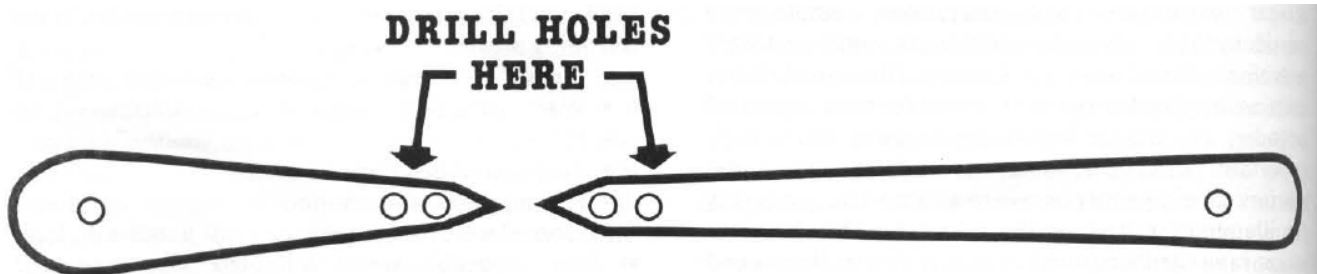
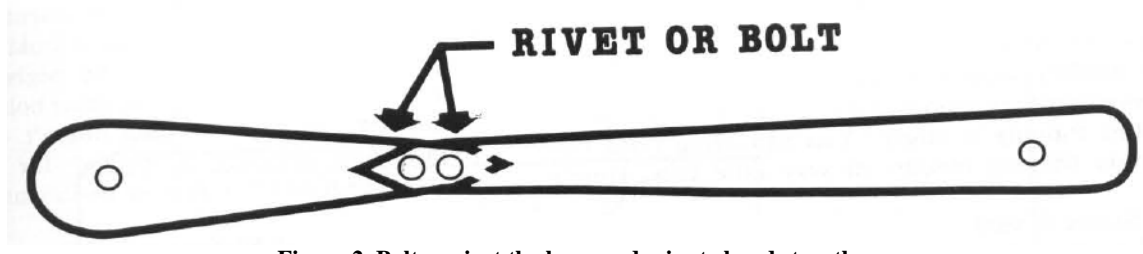
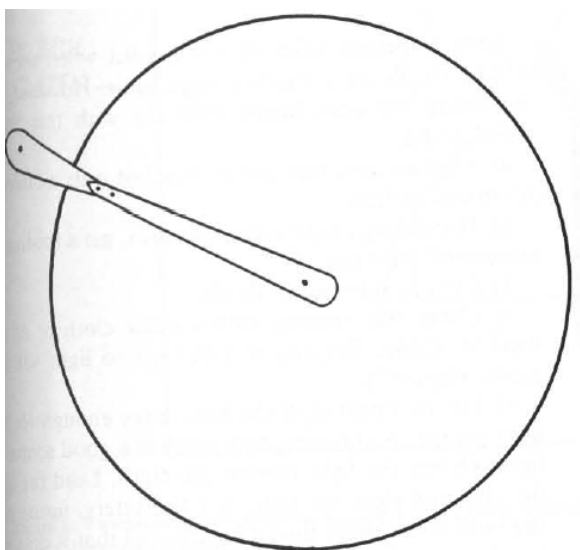

Figure 1. Punch two small holes in the hour and minute hands.
Figure 2. Bolt or rivet the hour and minute hands together.
Figure 3. Reinstall the two hands on the clock at the minute hand end.
4) Remove the glass cover from the face of the clock and then remove the hour, minute, and sweep-second hands. You may throw away the glass cover and sweep-second hand as they will not be needed. Now punch or drill two small holes in the pointed ends of the hour and minute hands (figure 1). Then rivet or bolt the two hands together (figure 2). Reinstall the two hands on the clock at the minute hand end. Your clock should now look like the sketch in figure 3.